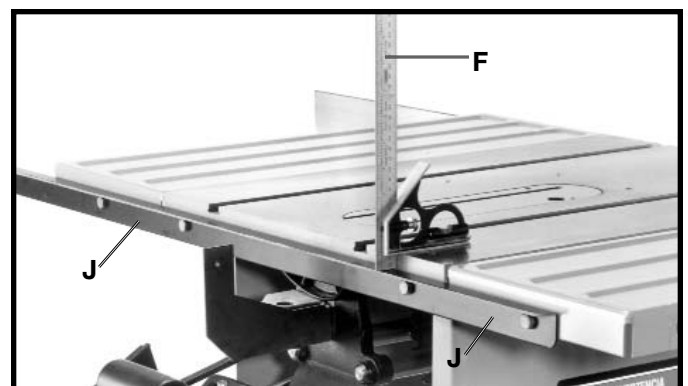

Fig. 44
6. Before tightening mounting hardware, using an adjustable square (F) Fig. 44, or a ruler, check to make certain the rear guide rail (J) is parallel with the saw table and extension tables.